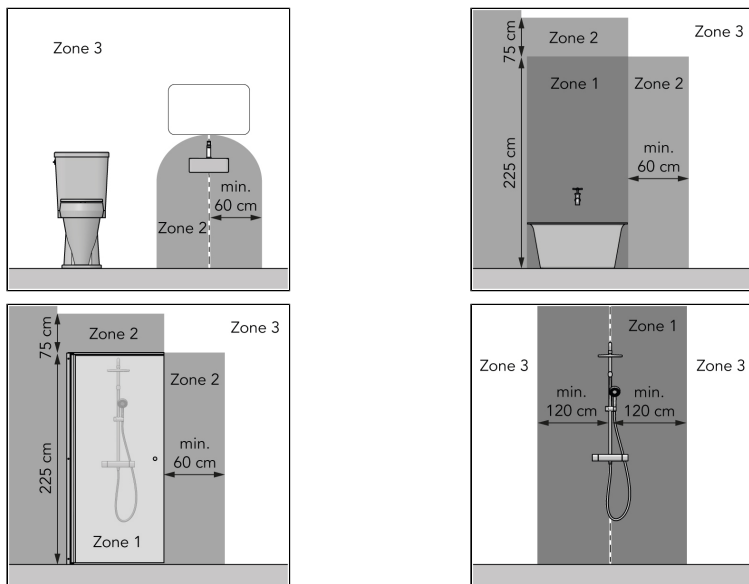

Figure 13.
- in zone 3 of a toilet room or bathroom with a bath, shower with screen or shower without screen, see Figure 13;